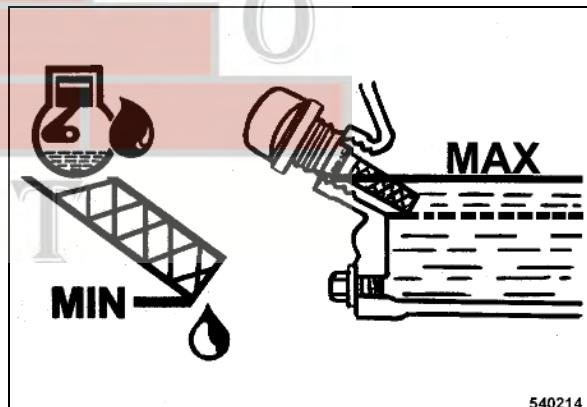

Fig. 39 □
- The oil level must reach the bottom edge of the filler bore (Fig. 39), top up if necessary.